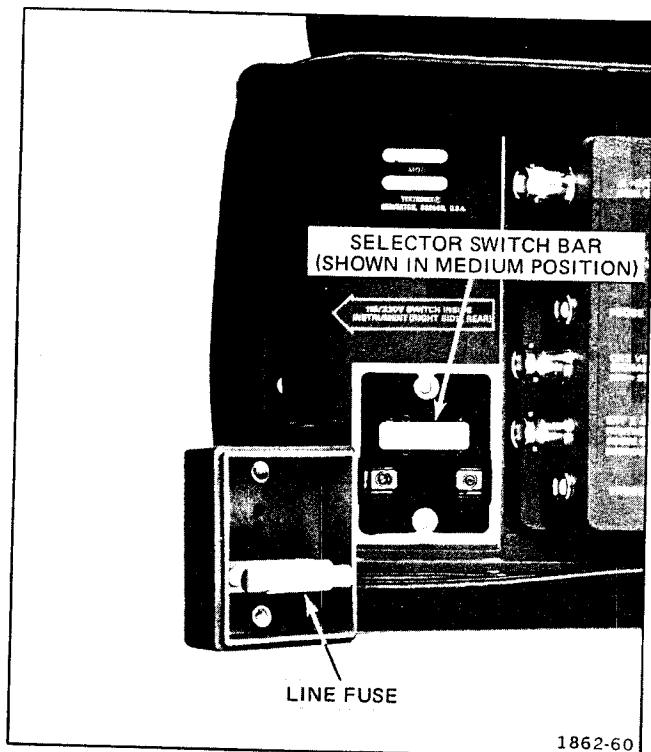

Fig. 2-1. Regulating Range Selector and Line Fuse.
5. Check Table 2-1 for the recommended range position of the Range Selector Switch Bar (see Figure 2-1). Select a Range which is centered about the average line voltage to which the instrument is to be connected. The middle position ("M") is a typical setting.